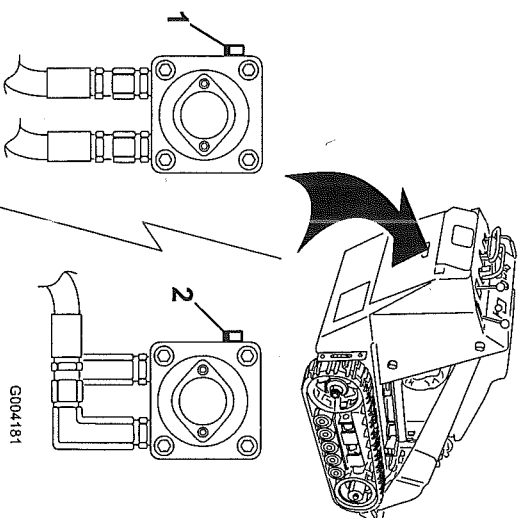

Figure 23
3. Using a wrench, turn the tow valves on the hydraulic pumps twice counter-clockwise (Figure 23).